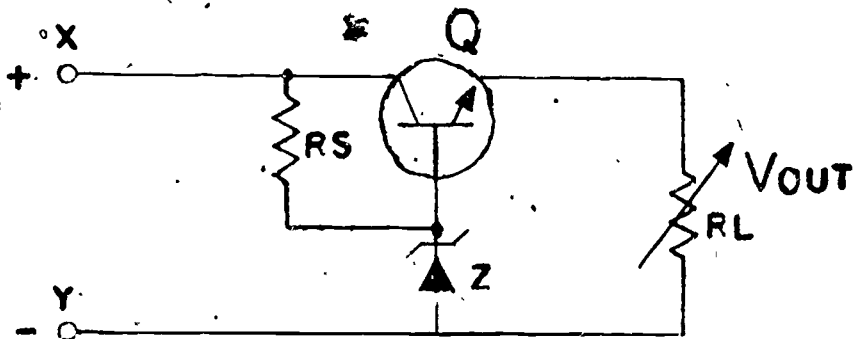

FIG. 9
Questions 28 through 35 refer to Figure 9.
32. Which of the following is true about Figure 9?
33. Which is true about Figure 9? It provides
34. Which function is not performed by Figure 9?
35. In Figure 9 (if $B = 90$, $I_g = 8\text{mA}$, $I_{RS} = 9\text{mA}$) $I_{RL} = \underline{\hspace{2cm}} \text{mA}$.